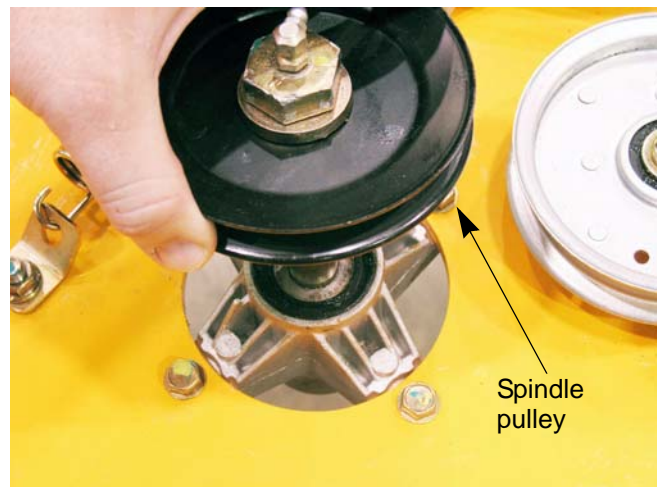

Figure 8.13
4. Left the spindle shaft out of the spindle housing. See Figure 8.13.